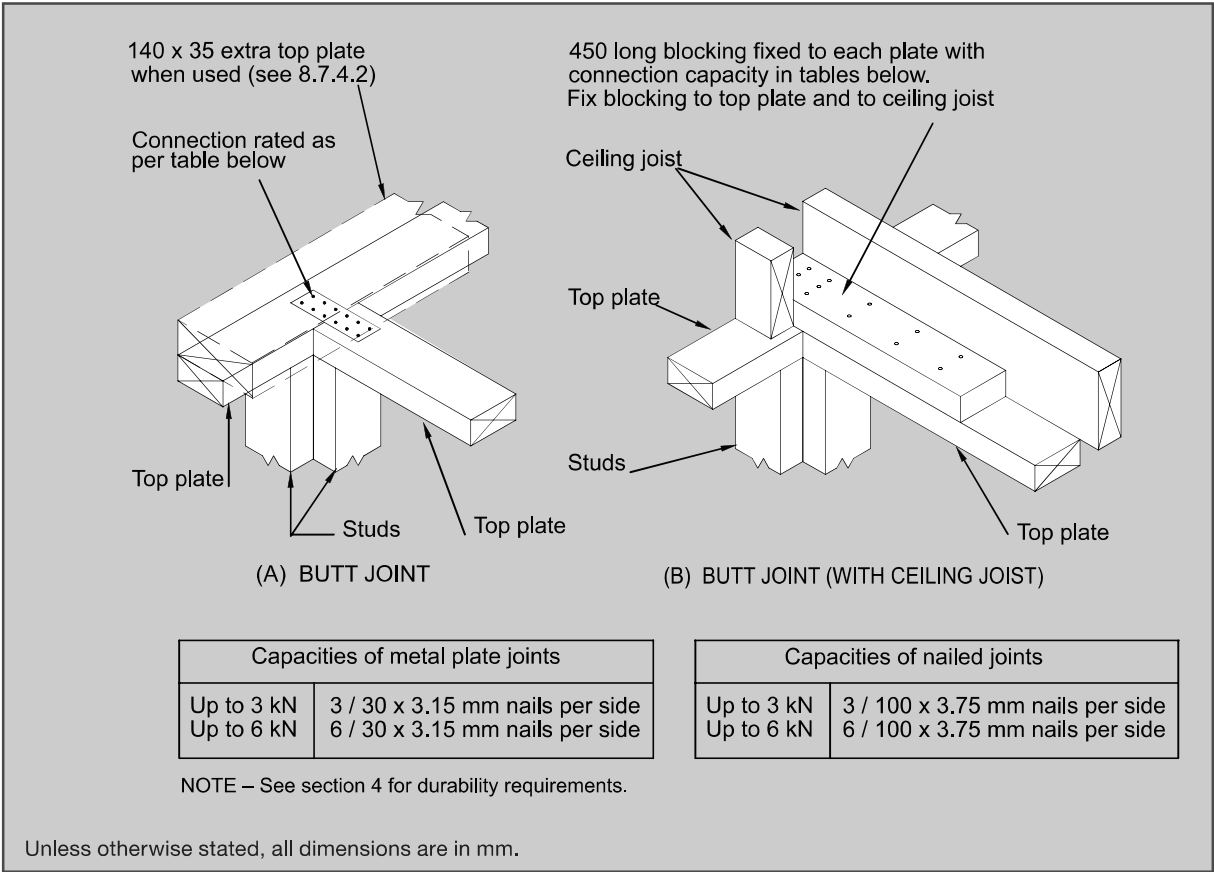

Figure 8.16 – Connecting top plates to external walls at right angles – Walls containing bracing (see 8.7.3.4)
- (a) For each wall containing *wall bracing elements* with a total *bracing capacity* of not more than 125 *bracing units*: to at least one such *external wall* by a fixing as shown in figure 8.16 of 6 kN *capacity*;
- (b) For each wall containing *wall bracing elements* with a total *bracing capacity* of not more than 250 *bracing units*: to at least 2 *external walls* by fixings as shown in figure 8.16 each of 6 kN *capacity*;
- (c) For each wall containing *wall bracing elements* with a total *bracing capacity* of more than 250 *bracing units*: to at least 2 *external walls* by fixings as shown in figure 8.16 each having a rating of not less than 2.4 kN per 100 *bracing units*.